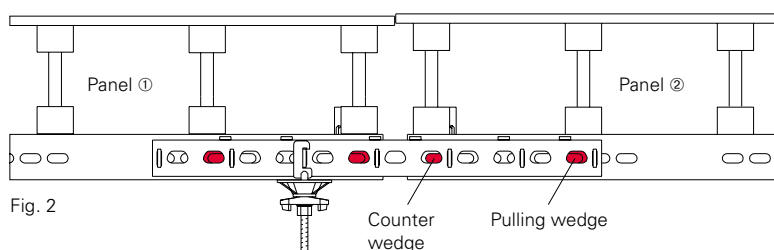

Fig. 2
- Use counter wedge to slightly open the formlining joint on Panel 2. (Fig. 2)